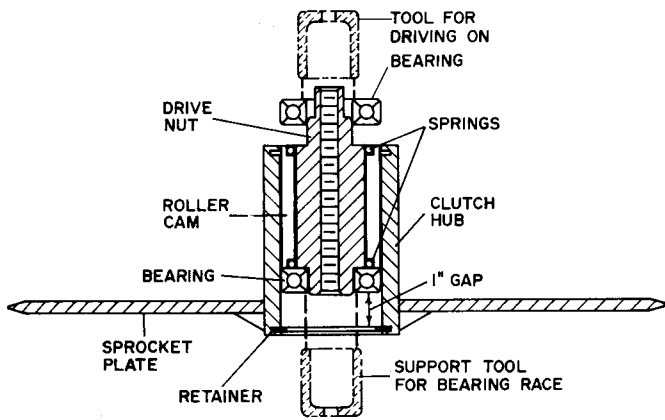

Fig. 39
stops at the engine side bearing retainer, fig. 39.
26. Push the operators side bearing on the drive nut. Support the engine side of the drive nut (not the sprocket hub) so as not to move the drive nut in the hub when putting the bearing on. When the bearing is going on the drive nut, be sure that the spring is still seated in the notches of the roller cams, fig. 39.